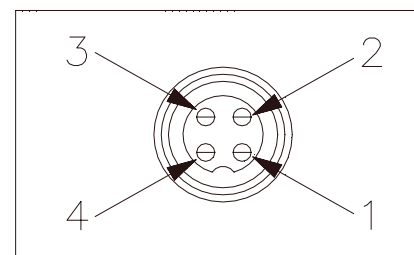

Fig. 3 Microphone plug pin numbers viewed from rear of pin receptacle.
5. The wires must now be soldered to the pins as indicated in the above wiring tables. If a vise or clamping tool is available it should be used to hold the pin receptacle body during the soldering operation, so that both hands are free to perform the soldering. If a vise or clamping tool is not available, the pin receptacle body can be held in a stationary position by inserting it into the microphone jack on the front panel. The numbers of the microphone plug are shown in Fig. 3, as viewed from the back of the plug. Before soldering the wire to the pins, pre-tin the wire receptacle of each pin of the plug.